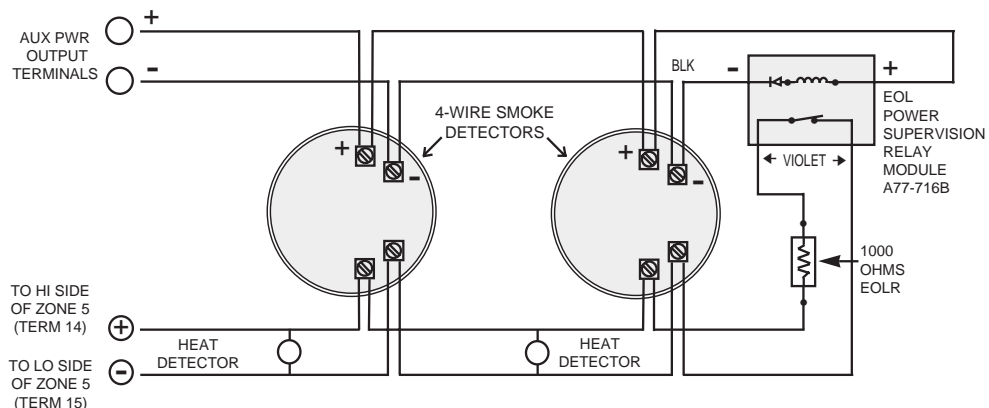

Figure 7. 4-wire Smoke Detector Connections (Zone 5.)
1. Connect 12 volt power for the detectors from Auxiliary Power terminals **4** and **5**, (which will interrupt power for fire alarm reset). Observe proper polarity when connecting detectors. See Figure 7.